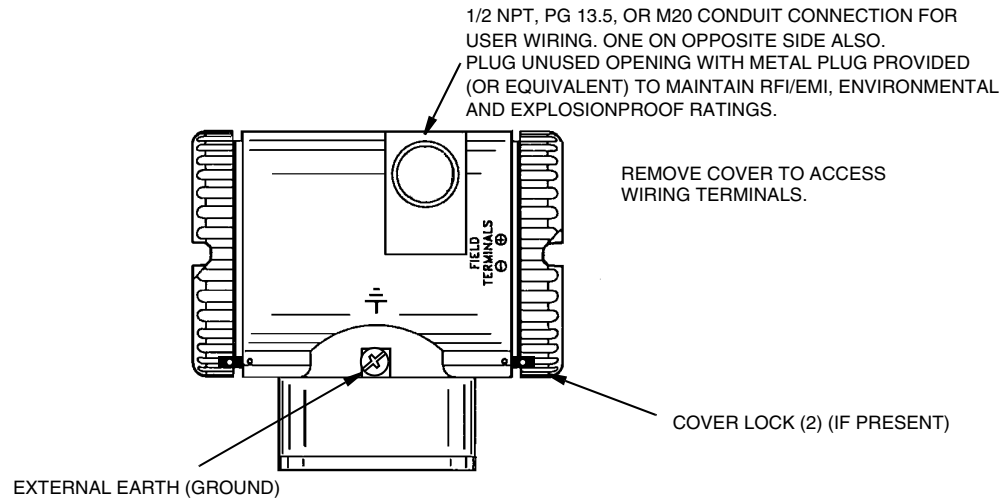
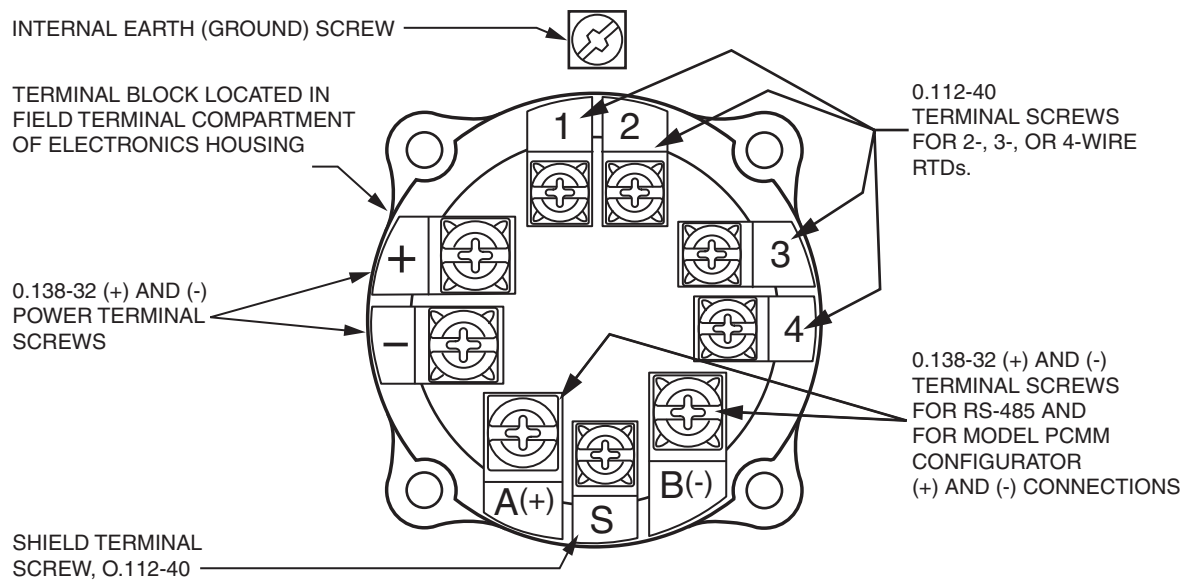
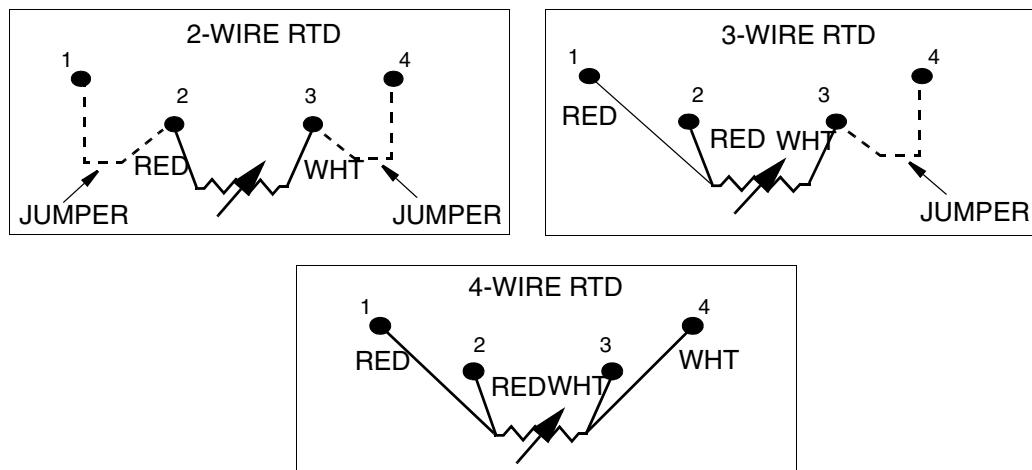

Figure 21. Accessing Field Terminals
Figure 22. Identification of Field Terminals
Figure 24. RTD Wiring
Electronic housing cover locks, shown in Figure 21, are provided as standard with certain agency certifications and as part of the Custody Transfer Lock and Seal option. To lock the covers, unscrew the locking pin until approximately 6 mm (0.25 in) shows, lining up the hole in the pin with the hole in the housing. Insert the seal wire through the two holes, slide the seal onto the wire ends and crimp the seal.
For access to the field terminals, thread the cover lock (if present) into the housing to clear the threaded cover and remove the cover from the field terminals compartment as shown in Figure 21. Note that the embossed letters **FIELD TERMINALS** identify the proper compartment. Identification of terminals is shown in Figure 22.
5. Connect an earth (ground) wire to the earth terminal in accordance with local practice. Ground terminal is shown in Figure 22.
6. Connect the signal wires to the transmitter “+” and “–” terminal connections shown in Figure 22.
7. The PCMM Configurator can be connected via the A and B terminals on the terminal block in the field terminal compartment as shown in Figure 22 to any convenient location in the loop (subject to hazardous location restrictions).
Connect your RTD to terminals 1, 2, 3 and 4. Locations are shown in Figure 22. Wire per Figure 24.